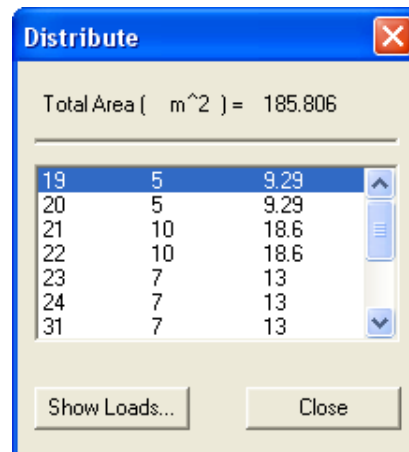

Figure 7-4 Distribute dialog box
- From the **Edit** menu, choose **Distribute**. The dialog box of Figure 7-4 appears.